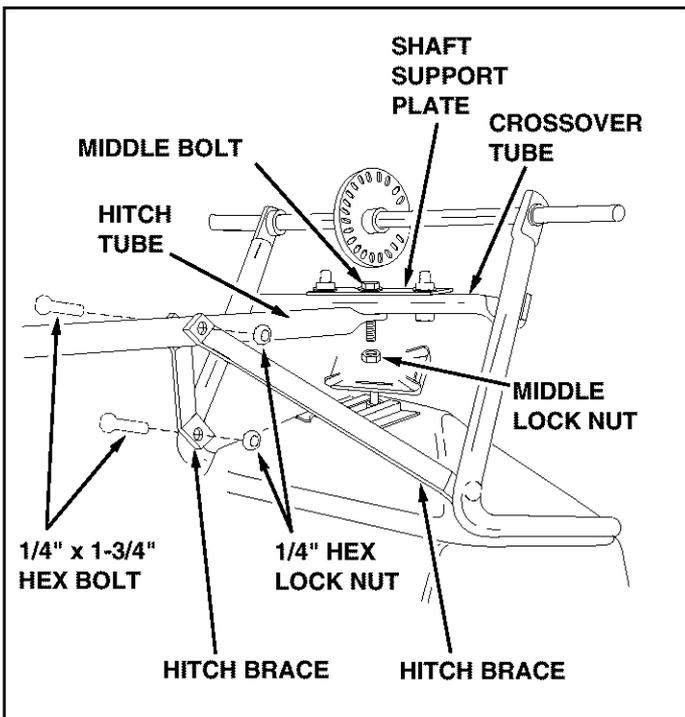

FIGURE 2
- Assemble the two hitch braces to the inside of the hopper frame, one on each side, using two 1/4" x 1-3/4" hex bolts and two 1/4" hex lock nuts. **DO NOT TIGHTEN YET.** See figure 2.
- Remove the lock nut from the middle bolt in the crossover tube and shaft support plate. Leave the bolt in place. See figure 2.
- Assemble the short end of the hitch tube onto the middle bolt and secure it with the lock nut you removed. **DO NOT TIGHTEN YET.** See figure 2.
- Assemble the two hitch braces to the hitch tube using a 1/4" x 1-3/4" hex bolt and a 1/4" hex lock nut. **DO NOT TIGHTEN YET.** See figure 2.